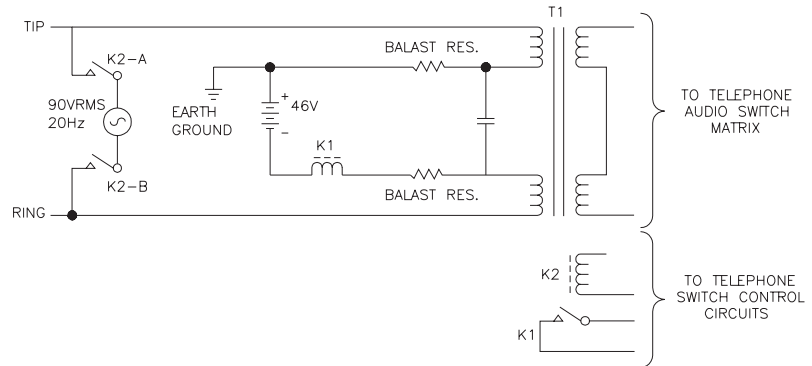

Figure 5. Subscriber-interface circuit
The telephone company provides a single pair of wires for every telephone line within the service area of the Central Office (CO). The pair of wires is twisted to form a balanced transmission line. This twisting of the two identical wires (See Figure 5, below.) provides for the rejection of hum and noise on the telephone transmission of both send and receive audio, DC current to power the user's telephone, and ringing voltage to signal the user of an incoming call.